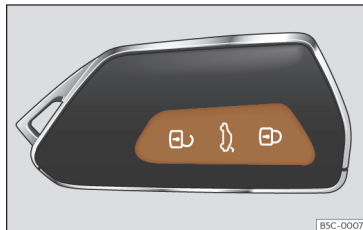

Fig. 70 Remote control key: keys.
- Lock: press the  button >>> **Fig. 70**.